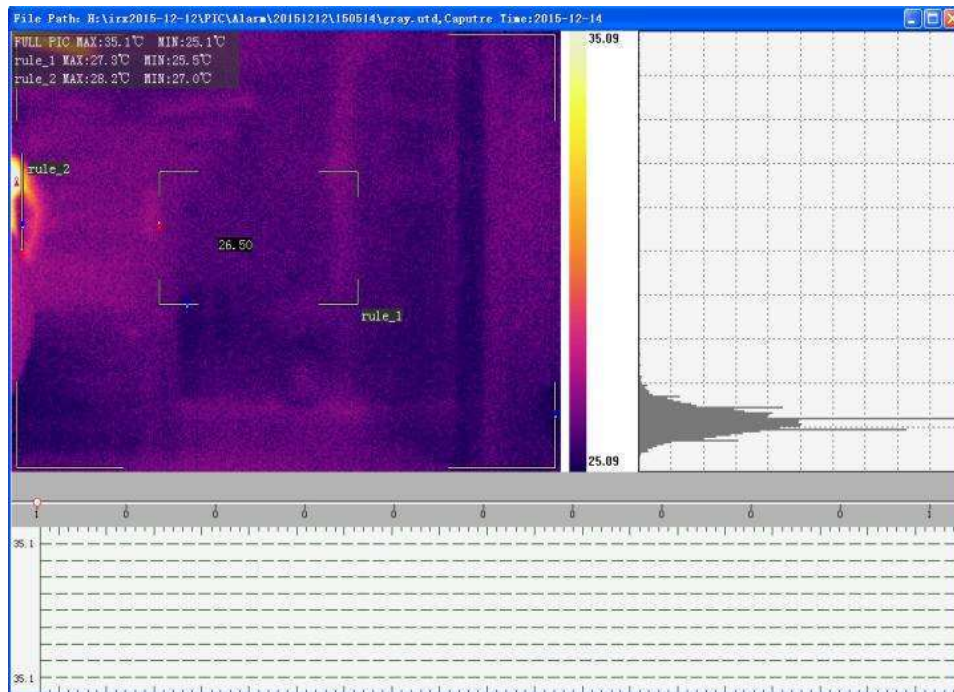

Figure 5-9
- Analyze the added dots, lines and rectangles. As shown in the figure 5-9.